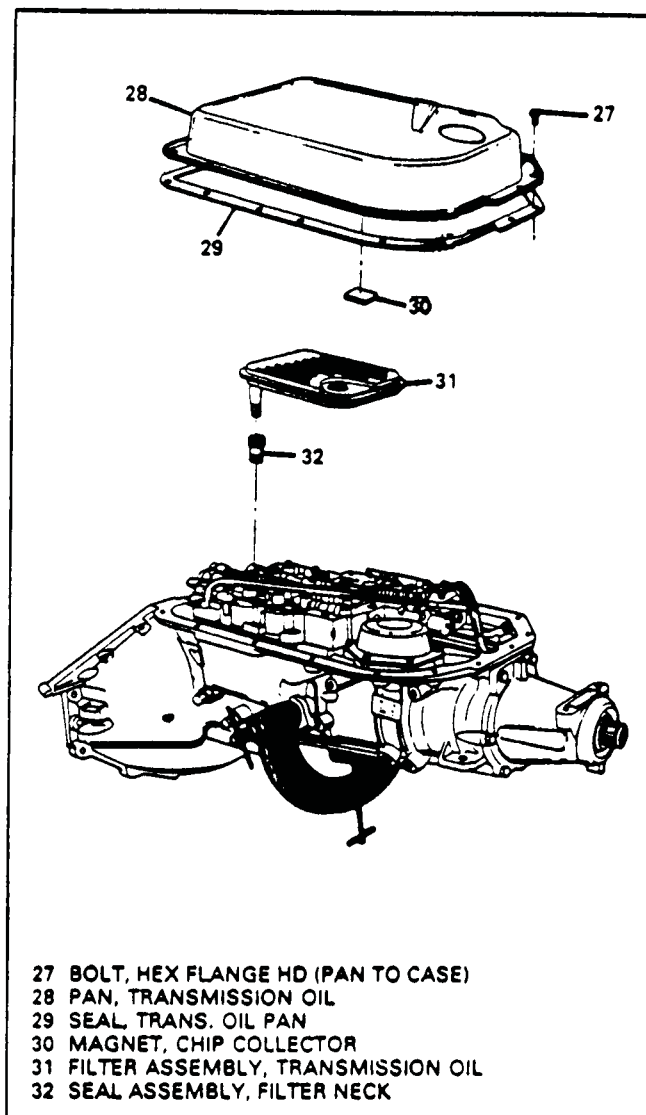

Figure 38
11. Remove and discard the oil filter and multilip seal in case (See Figure 38).